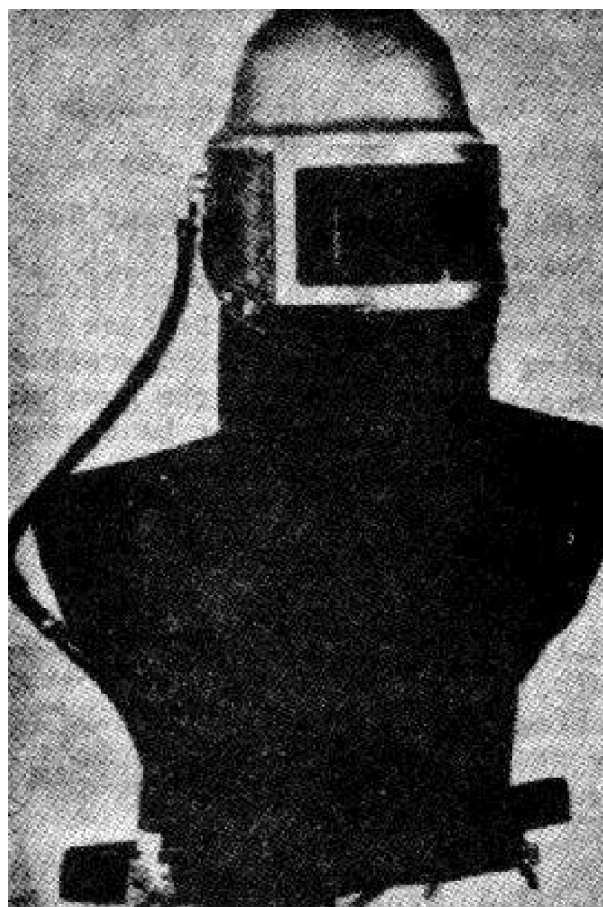
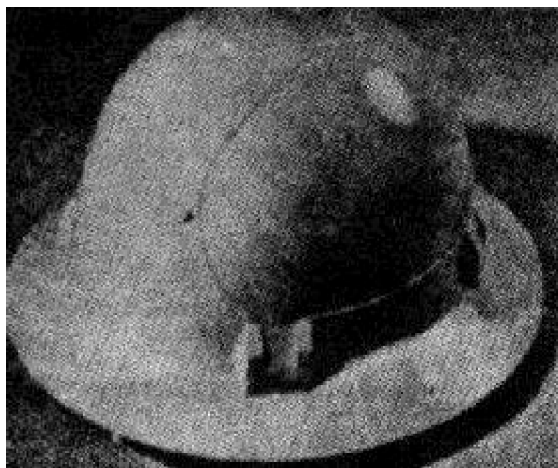

FIGURE 3-4
FIGURE 3-7
d. Abrasive blasting helmets for use when blast cleaning surfaces to be painted. (See Figure 3-4.)
ties, and jewelry should be avoided since they are potential causes of accidents. Safety helmets should be worn when using abrasive blasting media. (See Figure 3-4). Hard hats and steel toed safety shoes should be worn whenever there is any possibility of danger from falling objects. Shoes should have nonskid rubber soles when working in enclosed spaces or where flammable vapors must be present. Acid-proof clothing should be worn when handling acid cleaners. Use acid-proof air-supplied suits when using acid cleaning materials in enclosed areas. (See Figures 3-7 thru 3-10.)